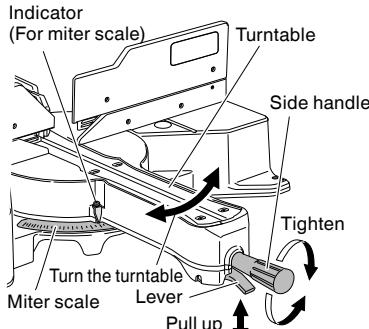
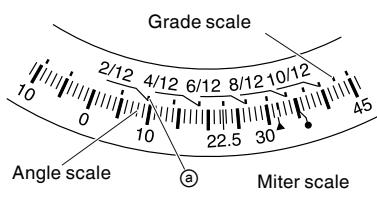

Fig. 32
Fig. 33
- (1) Loosen the side handle and pull up the lever for angle stoppers. Then, adjust the turntable until the indicator aligns with desired setting on the miter scale (Fig. 32).
- (2) Re-tighten the side handle to secure the turntable in the desired position.
- (3) The miter scale (Fig. 33) indicates both the cutting angle on the angle scale and the gradient on the grade scale.
- (5) Therefore, to cut a workpiece at a grade of 2/12, set the indicator to position ④ as indicated in Fig. 33.